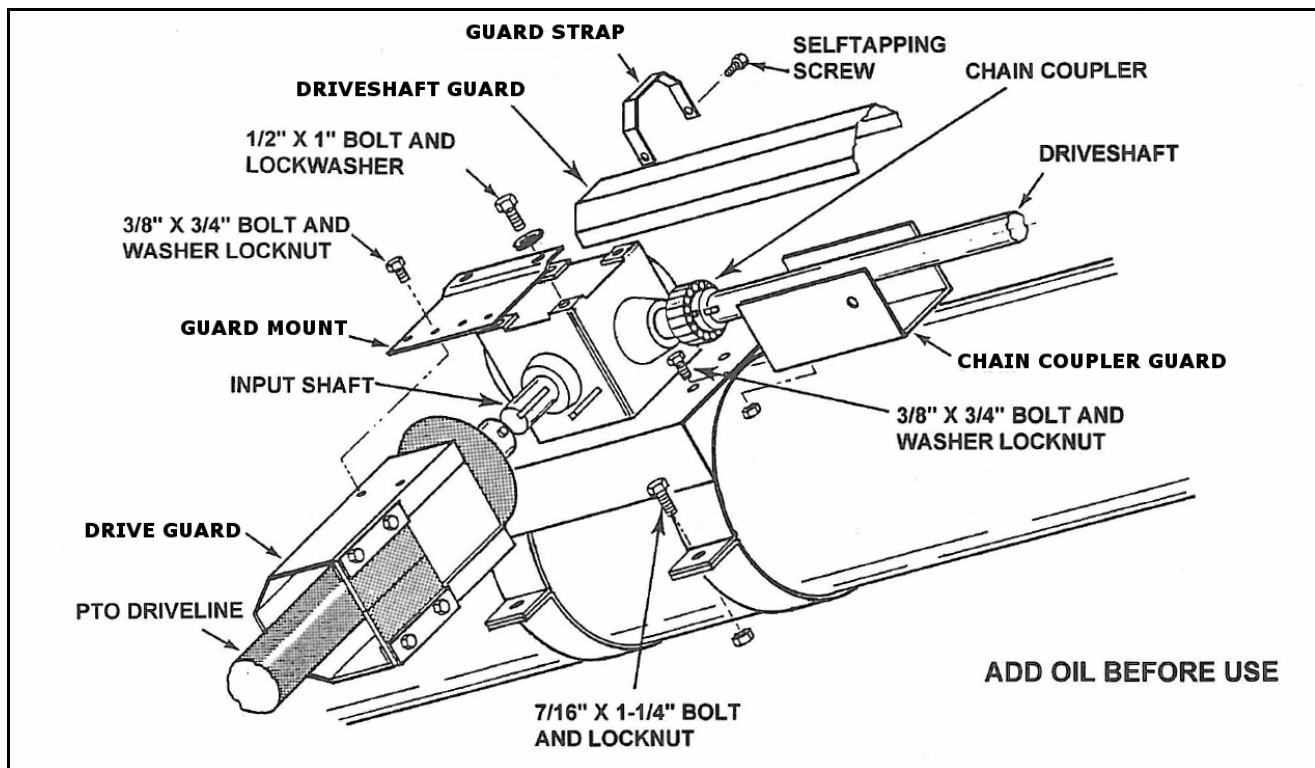

Figure 3.6
See Figure 3.6.
5. Attach the chain coupler guard to gearbox base with two 3/8" x 3/4" bolts and washer locknuts (Figure 3.6).
8. Attach the drive shield to the shield mount with two 3/8" x 3/4" bolts and washer locknuts, then slide this assembly over PTO driveline and attach to gearbox with two 1/2" x 1" bolts and lockwashers (Figure 3.6).
1. Place driveshaft shield against gearbox and over chain coupler guard, then secure with a guard strap and 2 self-tapping screws (Figure 3.6).